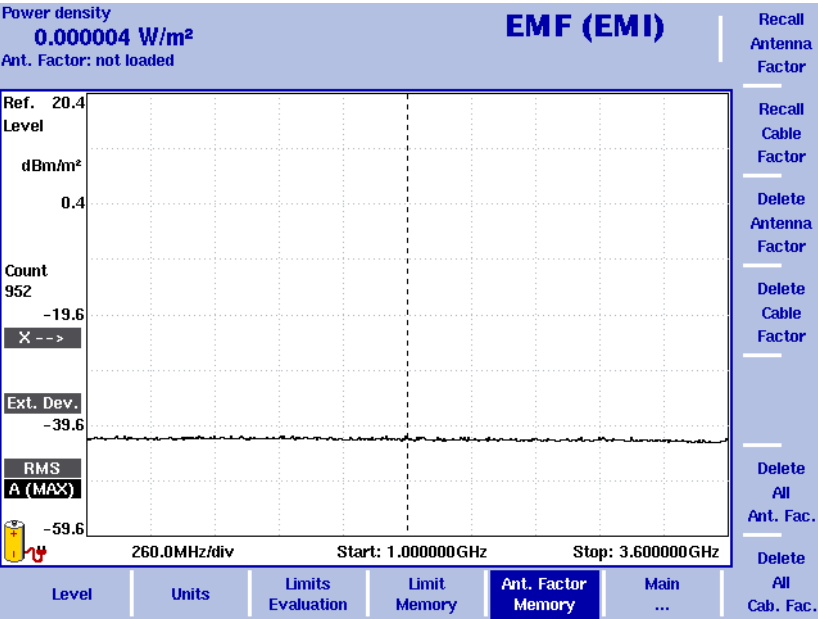

Figure 56 Antenna Factor menu
- 1 In the EMF (EMI) main menu select **Level > Ant. Factor Memory**. The Antenna Factor Memory is displayed (see Figure 56 on page 204).